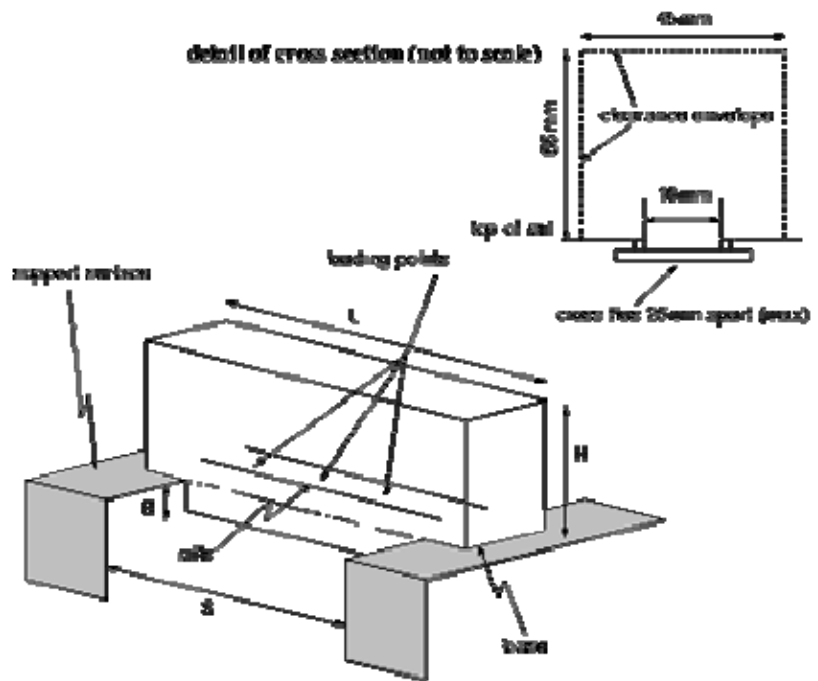

Figure 1. Bridge schematic (not to scale).
Model bridges are intended to be simplified versions of real-world bridges, which are designed to accept a load in any position and permit the load to travel across the entire bridge. In order to simplify the model bridge design process, the number of possible loading positions is reduced to three, and to allow the contest to proceed in a reasonable amount of time only one loading position is actually tested. These simplifications do not negate the requirement that the bridge must be designed to accept a load at any of the three positions. Bridges determined by the judges not to meet this requirement will be disqualified and tested as unofficial bridges. This year's bridge is a model railroad bridge that will allow an HO gauge rail car - of the size specified by the clearance envelope shown in Figure 1, cross section - to be rolled completely across the bridge.
- The bridge (see Figure 1) must span a gap (S) of 300 mm, be no longer (L) than 400 mm and be no taller (H) than 80 mm above the support surface. The bridge structure may project a maximum (B) of 30 mm below the support surfaces (see Figure 1).